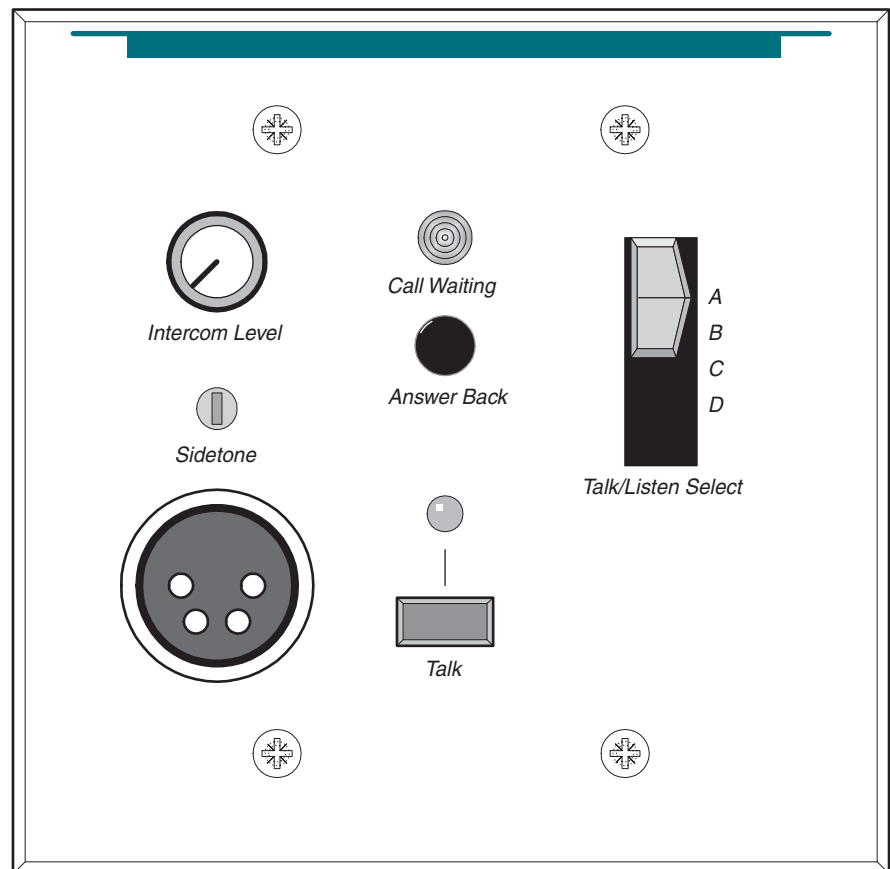

Figure 1-1: ICS-24 Front Panel
The controls, indicators, and connectors found on the ICS-24 front panel are shown in Figure 1-1 on page 1-2 and are described in the text that follows.
- 5. Set listen levels and sidetones. (Figure 1-1 on page 1-2)